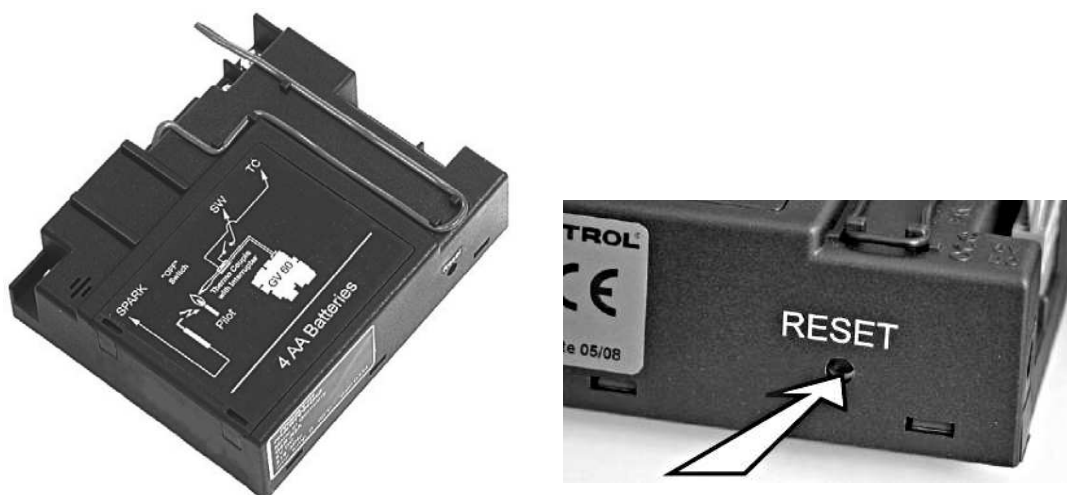

Figure 3: Receiver "RESET" button
- Press the **"RESET"** button on the receiver, and keep this pressed until 2 beeps are heard. See figure 3.